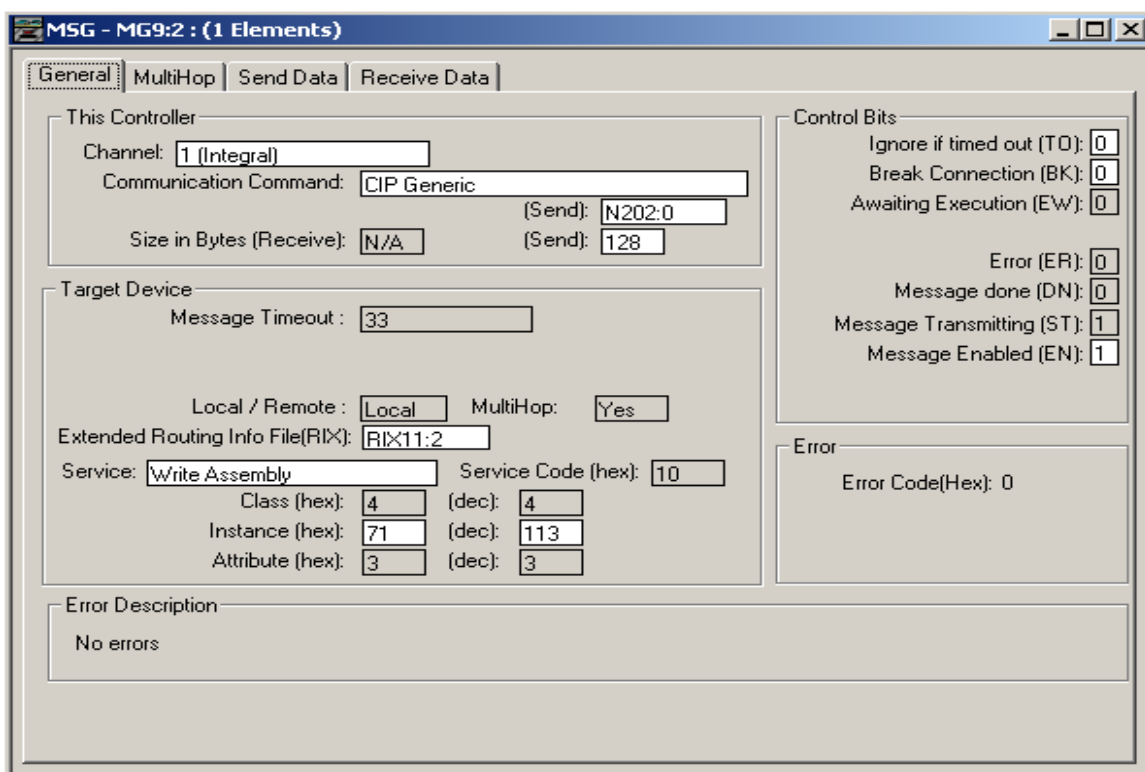

Figure 14: Configuring a write instruction
- a. Double Click in the *Channel* field, select *1 (Integral)*, from the drop down menu and press Enter. (Figure 14). Make sure that channel 1 has been configured with the correct IP settings. This can be verified by double clicking on *channel configuration* in the project tree.
- c. If the Message Instruction is being used to write data to the MPiec unit, enter the integer file where the data will be placed in the *Data Table Address (Send)* field and press enter. If the Message Instruction is being used to read data to the MPiec unit, enter the integer file where the data will be located in the *Data Table Address (Receive)* field and press Enter. (Figures 14 and 16)